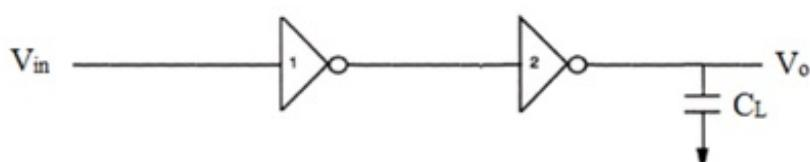

Fig. Q 4B
- 4A) Implement a Full adder using CMOS PLA (4)
4B) Two inverters are cascaded to drive a capacitive load $C_L = 15 \square C_g$ as shown in Fig. Q 4B. (3)